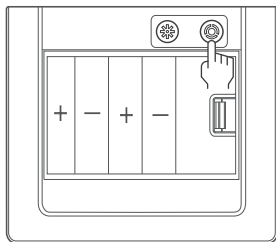

Figure 4
2. As shown in Figure 4, press "ⓘ" on the battery compartment and there will be a voice prompt "Safe mode is on", indicating successful activation. Press the button again can turn "Safe mode" off.